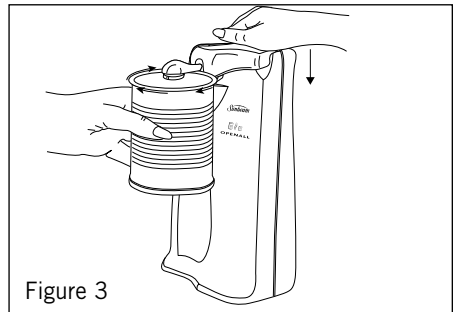

Figure 3
4. Firmly press the Lever down. This action will bring the blade down and pierce the lid of the can and start operating the motor to turn the can. Ensure the Magnetic Lid Holder is in contact with the lid of the can. (See figure 3.)